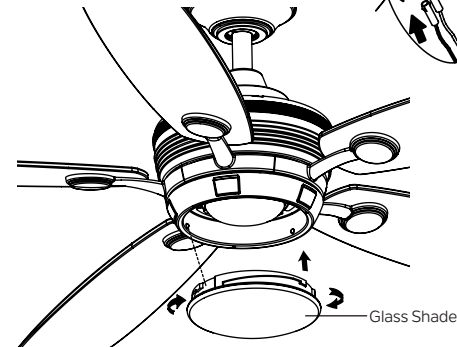

Fig. 24
Step 3. Secure the glass shade to light plate by turning in a clockwise direction. Twist the glass shade gradually until it snaps on to the light plate. DO NOT OVER-TIGHTEN. (Fig. 24)